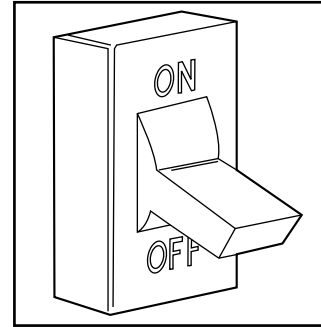
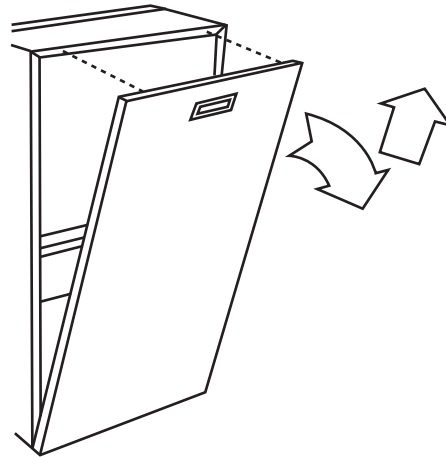

Fig. 20 - Turn Off Electrical Supply
Fig. 21 - Main Furnace Door
1. Turn off electrical supply to the furnace. (See Fig. 20.)
- **AIR FILTER(S) LOCATED IN BLOWER COMPARTMENT:**
- a. Remove main furnace door. (See Fig. 21.)
1. Turn off electrical supply to the furnace and remove the main furnace door. (See Fig. 20 and 21.)